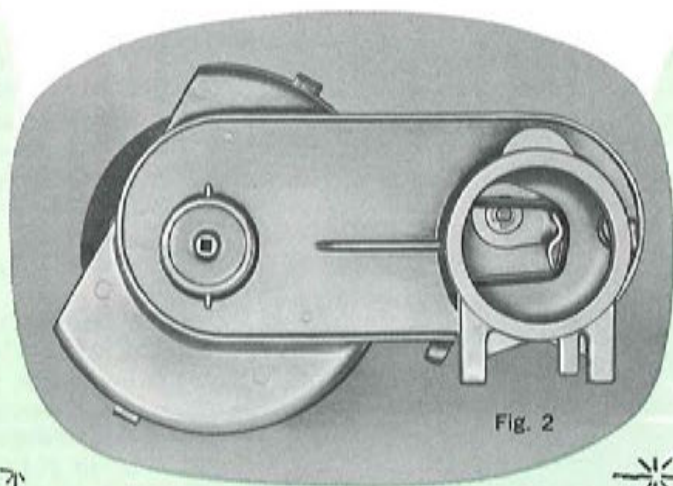

Fig. 2
**STEP 2:** Turn the Belt Lifter lever to the "OFF" position thus extending the belt (figure 2). The unit is now ready for attachment to the Motor Unit.